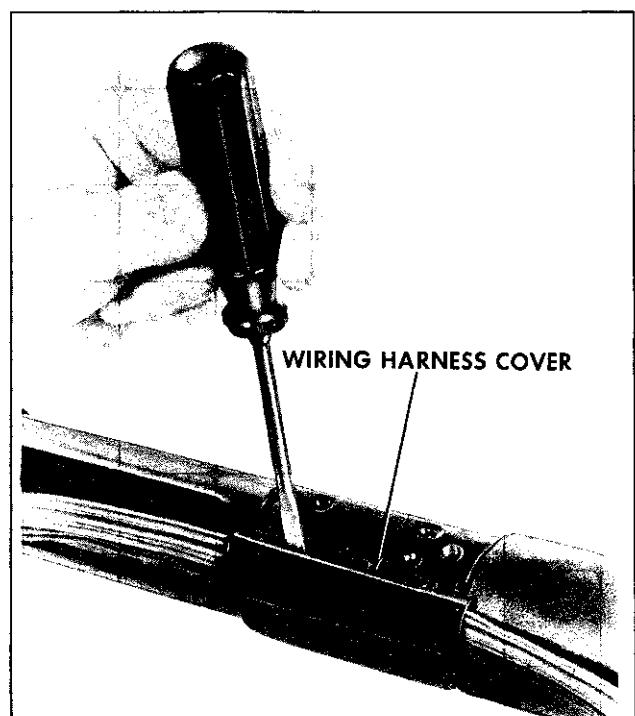

Fig. 9-5 Removing Wiring Harness Cover
9. With mounting bracket removed, pry wiring harness cover off steering column and allow wiring harness to hang free (Fig. 9-5).
6. With mounting bracket removed pry wiring harness off steering column and allow wiring to hang free (Fig. 9-5).